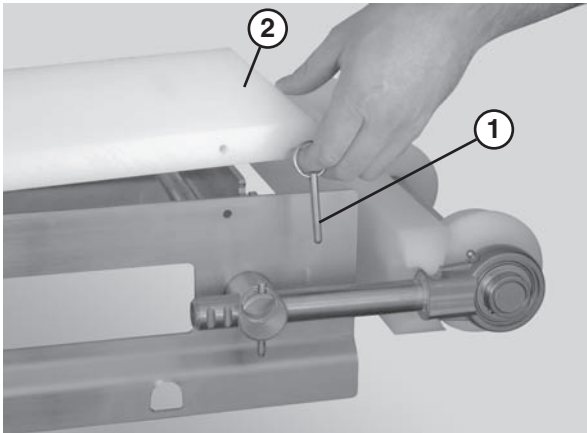

Figure 42
1. Remove the pull pins (Figure 42, item 1) that connect the guide (Figure 42, item 2) to the frame.